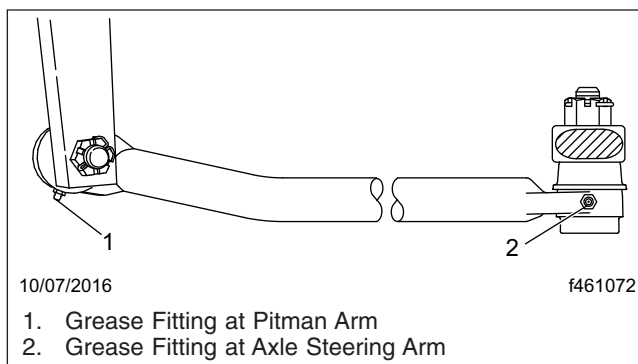

Fig. 3, Drag Link
2. Using a clean rag, wipe all dirt from both drag link grease fittings. See **Fig. 3**.